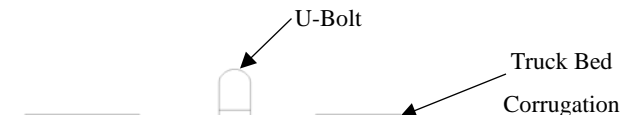

FIGURE 5
GOOSENECK SAFETY CHAIN U-BOLT AND BALL INSTALLATION - Figures 5 & 6
3. Using the U-Bolts slots as a guide, from underneath the truck, mark and center punch the position of the 4 holes in the truck bed that the safety chain attachment U-bolts will be routed through. **THESE HOLES MUST BE IN A LOWER BED CORRIGATION TO LIMIT THE AMOUNT OF THE U-BOLT SHOWING ABOVE THE BED. SEE FIGURE 5.** Then drill 4 pilot holes with a 3/16" drill bit before enlarging these holes to 11/16". Touch up the dilled holes with paint.